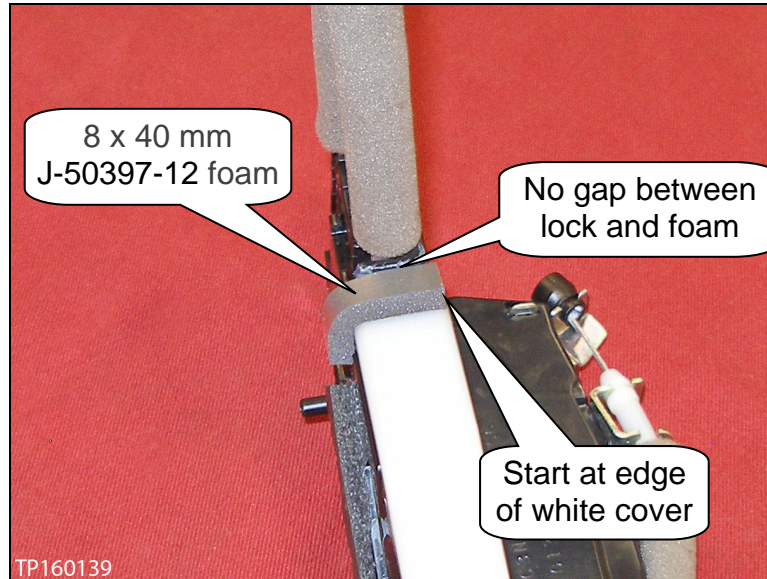

Figure 13
7. Cut one (1) piece of foam:
8. Apply the foam as shown in Figure 13 and 14.